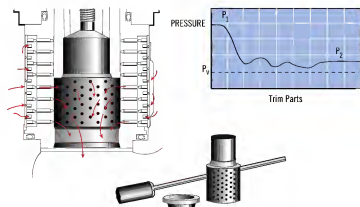

Figure 16
1. Special cavitation reducing valve trim (shown in Figure 16). The most common type of cavitation control trim for use in a globe valve is a perforated cage.